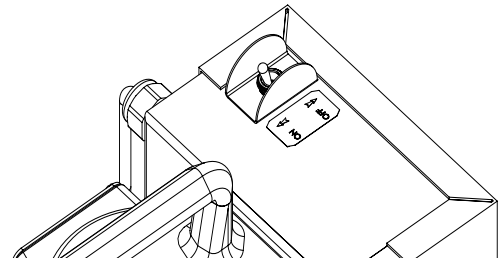

Fig. 3. Motor Control Switch
- B. Place the motor control switch in the ON position or the REMOTE position, if applicable. Refer to figure 3.